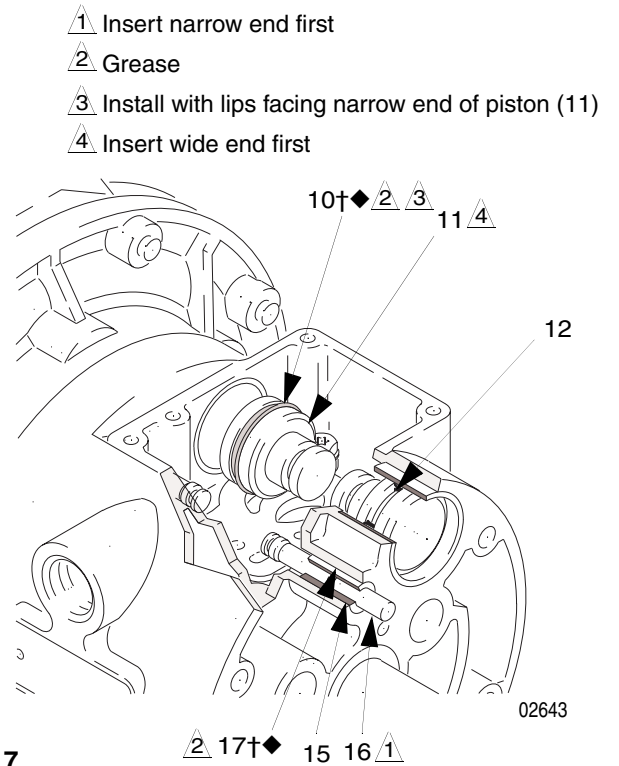

FIG. 7
4. Pull the two actuator pistons (11) out of the bearings (12). Remove the u-cup packings (10†◆) from the pistons. Pull the pilot pins (16) out of the bearings (15). Remove the o-rings (17†◆) from the push pins. See FIG. 7.
6. Inspect the bearings (12, 15) in place. See FIG. 7. The bearings are tapered and, if damaged, must be removed from the outside. This requires disassembly of the fluid section. See page 22.
4. Install an o-ring (17†◆) on each pilot pin (16). Grease the pins and o-rings. Insert the pins into the bearings (15), **narrow** end first. See FIG. 7.
5. Install a u-cup packing (10†◆) on each actuator piston (11), so the lips of the packings face the **narrow** end of the pistons. See FIG. 7.
6. Lubricate the u-cup packings (10†◆) and actuator pistons (11). Insert the actuator pistons in the bearings (12), **wide** end first. Leave the narrow end of the pistons exposed. See FIG. 7.